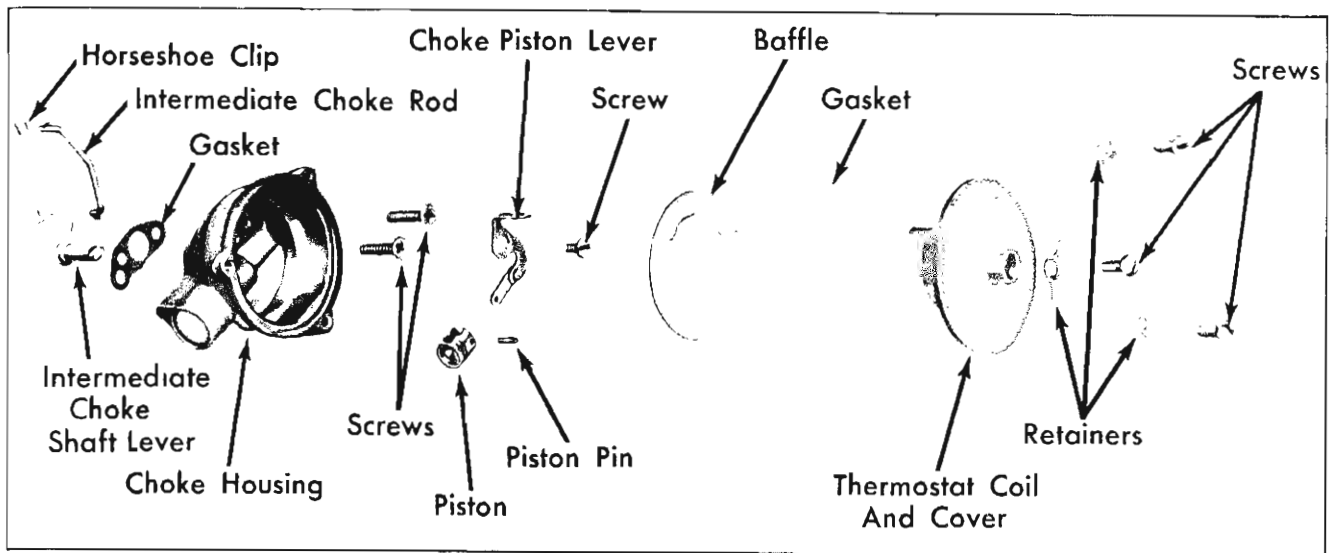

Fig. 57—Choke Assembly—Disassembled
g. Choke Disassembly (fig. 57)